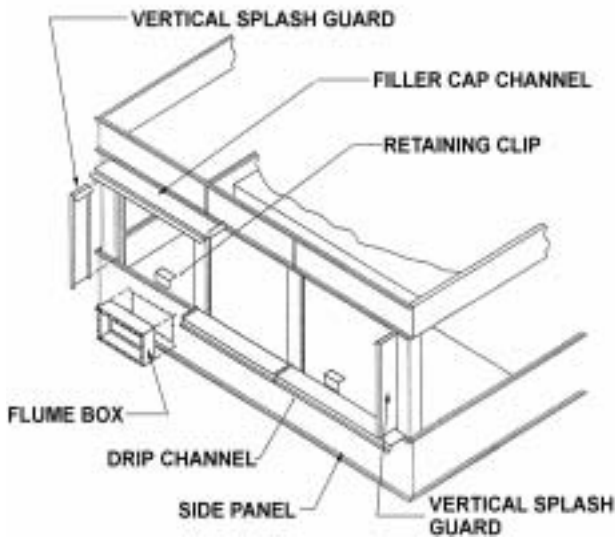

Figure 8 - Attachment of Drip Channel and Splash Guards.
11. Place the vertical splash guard in the bend of the vertical supports. Attach the vertical splash guard using 8 mm self-tapping screws. On stainless steel units, attach the vertical splash guard using 8 mm stainless steel nuts and bolts. (See Figure 8).